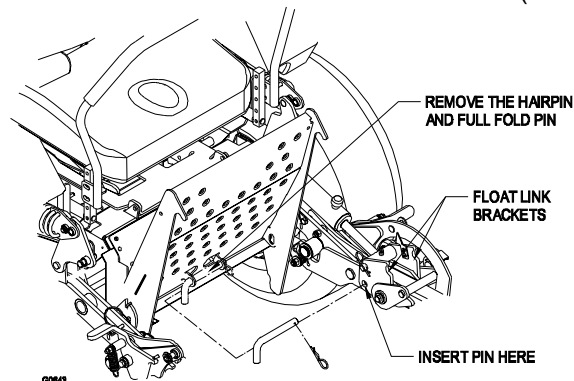

FIGURE 8
- b) Flip up the floor pan and remove full fold pin. Retract the cylinder to align holes in float link bracket with holes in front frame. (Deck will be at or near lowest height.) Insert into the bottom hole of the float link bracket (see Figure 8). Lower the floor pan.
- Raise the floor pan to the locked position as shown in Figure 8.